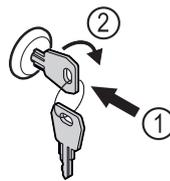

Fig. 144 Example illustration
- ▶ Insert key Fig. 144 (1).
- ▶ Turn key clockwise by 90° Fig. 144 (2).